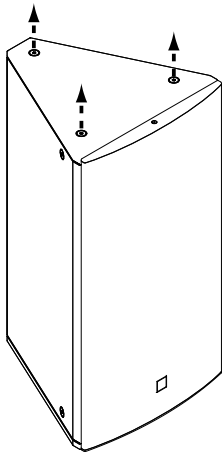

Fig. 1
2. Remove the three countersunk M10 hex-head screws from the top panel using a 6 mm hex key or screwdriver bit. You will use these screws to attach the TB-R (fig. 1).